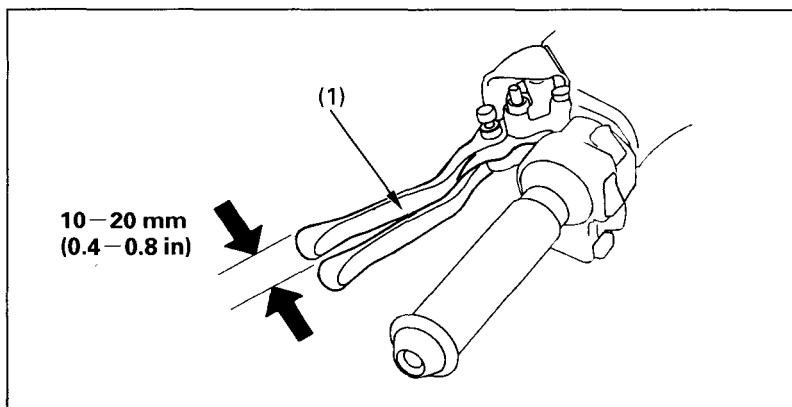

Fig. 4-17
Normal clutch lever free at the lever (1), (Fig. 4-17) is: